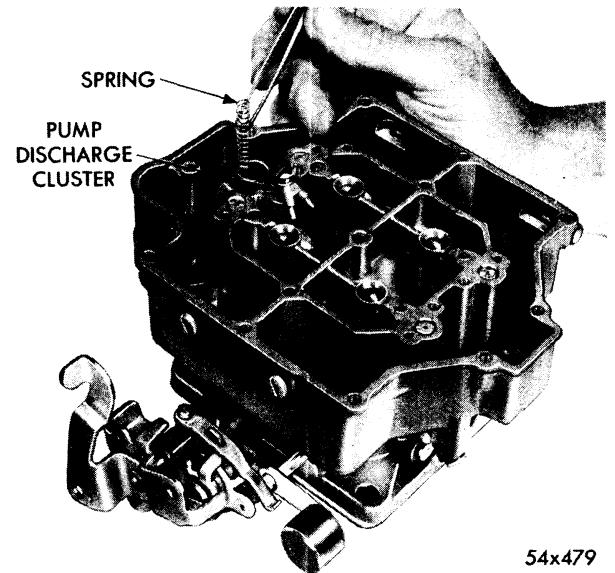

Fig. 22—Removing or Installing Vacuumer Piston Spring
- (1) Lift the vacuumer piston spring out of the vacuumer piston cylinder in the main body, as shown in Figure 22.